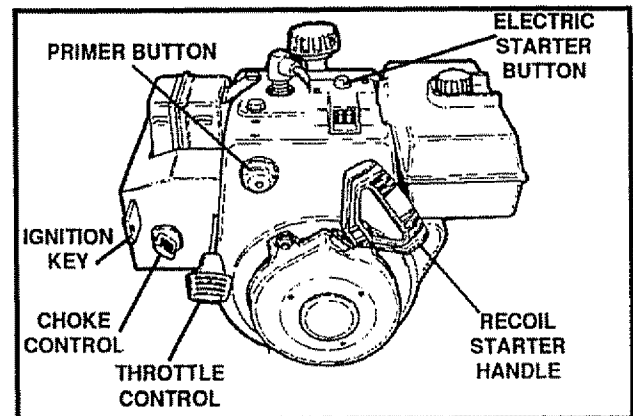

FIG. 10
- To stop the engine, push the throttle control lever to STOP and pull out the ignition key (See Fig. 10).